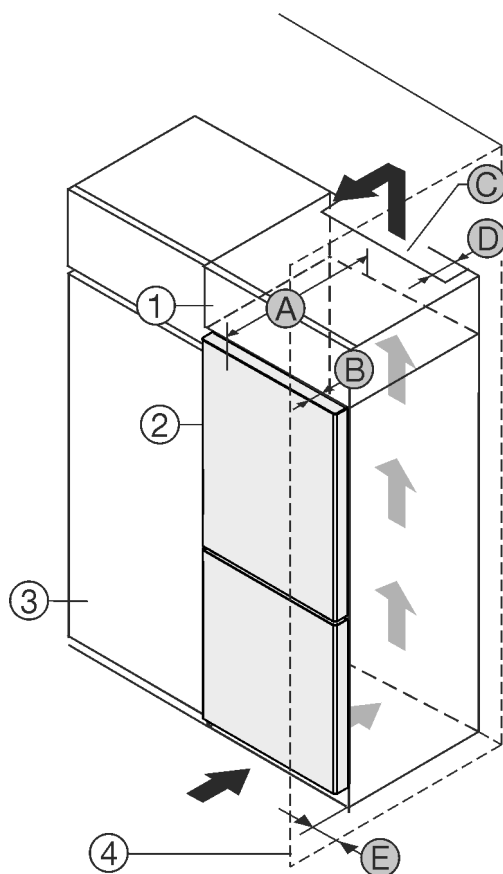

Fig. 1
You can place the appliance directly beside the kitchen cabinet Fig. 1 (3).*
There must be a ventilation shaft at the depth Fig. 1 (D) of the back of the top cupboard over the entire width of the top cupboard.*
The cross section of the ventilation gap Fig. 1 (C) must be maintained below the ceiling.*
If the appliance is set up with the hinges next to a wall Fig. 1 (4), the distance between the appliance and the wall must be at least 13 mm (1/2 in) .*
If the appliance is set up with the hinges next to a wall Fig. 1 (4), the distance between the appliance and the wall must be at least 20 mm (13/16 in) .*
In order to be able to fully open the door, the appliance must protrude by the depth of the door Fig. 1 (B) from the front of the kitchen cabinet. Regardless of the depth of the kitchen cabinets Fig. 1 (3) and use of wall spaces, the appliance can protrude further.*